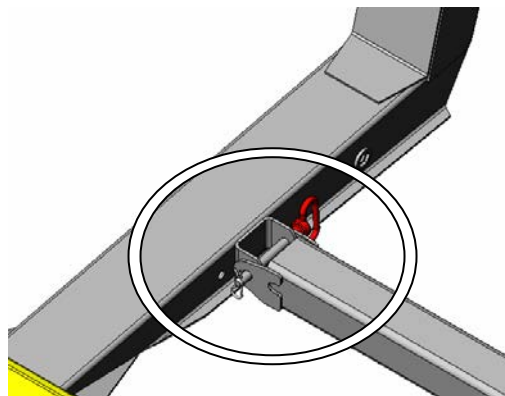

Figure 70.10
5. Carefully, remove the pin on the strut holding the other end of the transport to the table (Figure 70.10).